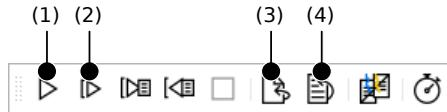

Figure 2.6: The basic execution buttons: (1) run continuously, (2) run step-by-step, (3) stop, (4) reset.
- Click Execute > Run or click the corresponding button (1) from the tool bar (see figure 2.6).
- Click Reset Program Execution (4) to reset the program to its initial state. (see figure 2.6).
- Using the button Step Over (2) you can execute the program line by line and inspect the immediate effect of each instruction.